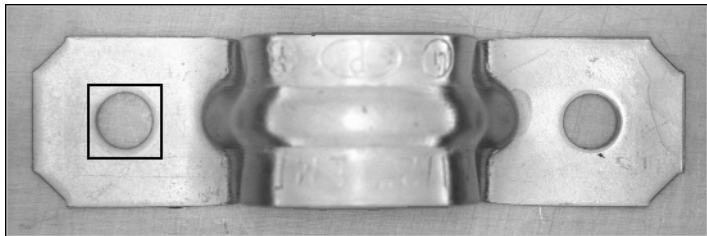

Figure 4-2. Selecting a Template Pattern
3. With the **Rectangle Tool**, click and drag a box around the left hole in the image, as shown in Figure 4-2. The ROI becomes the template pattern.